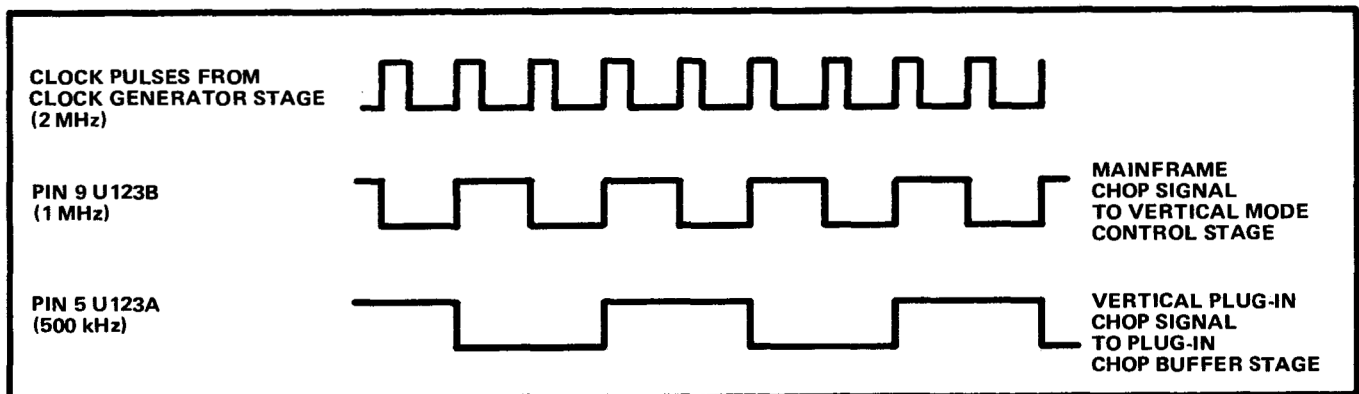

Fig. 3-7. Idealized input and output waveforms for Chop Counter stage.
The two-megahertz clock pulses from the Clock Generator stage are connected to the trigger (T) input of U250B. As connected, U250B changes output states with each positive-going Clock pulse, and the signal at its "1" output is a square wave that switches between the HI and LO levels at a one-megahertz rate. This signal is connected to the Vertical Mode Control stage to provide the Vertical Mainframe Chop Signal. It is also connected to the trigger input of U250A. U250A also changes output states with each positive-going pulse at its trigger input to produce a 500 kilohertz square wave at its "1" output. The output from U250A provides the Vertical Plug-in Chop Signal to the Plug-in Chop Buffer stage. Idealized waveforms showing the timing relationships between the input and output signals for this stage are shown in Fig. 3-7.